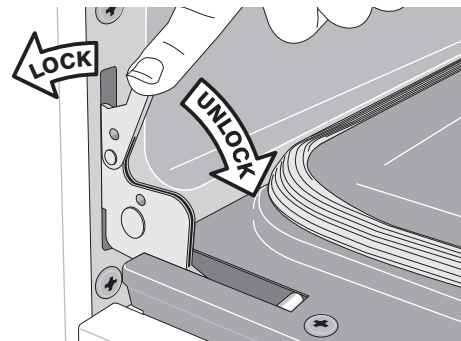

Figure 55: Door hinge locks
2. Pull the door hinge locks on both left and right door hinges down from the oven frame completely toward the oven door (See Figure 55). A tool such as a small flat-blade screwdriver may be required.
4. Push the door hinge locks up toward and into the oven frame on both left and right oven door hinges to the locked position (Figure 55).